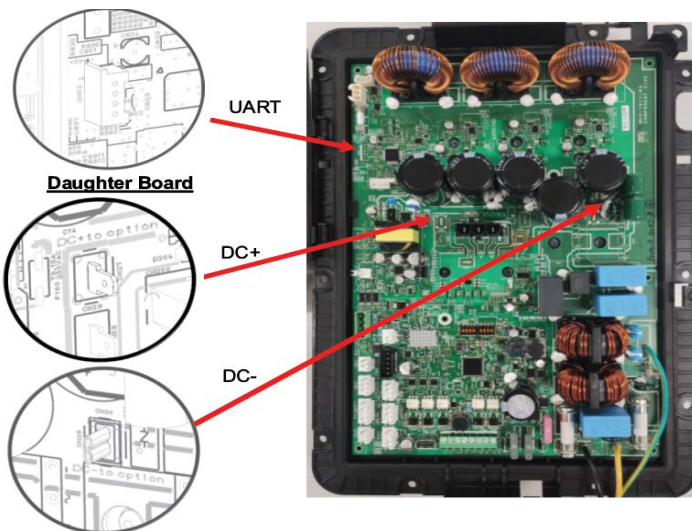

Fig. 6 – ODU Control Board Connectors
- Connect the Wire Harness labeled RS485 to the J2 Connector on the Daughter Board as shown in Fig. 6.
- Attach DC Power Harness quick-connect wires DC+, DC - to the ODU Control Board Connectors (CN29 & CN28). See Fig. 6.